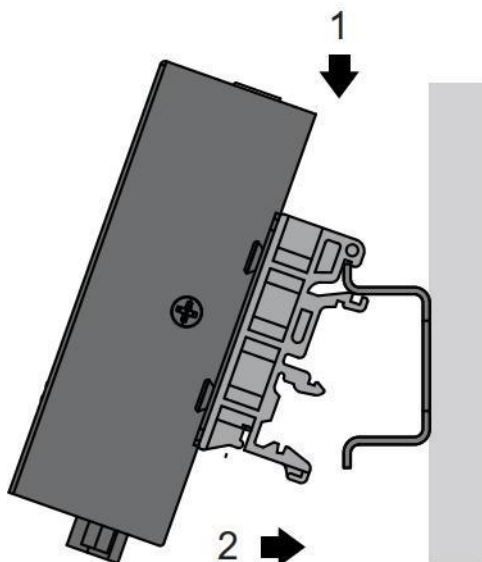

Fig.3 Install DIN-Rail mounting Kit.
- Position the rear panel of the device directly in front of the DIN-Rail, making sure that the top of the DIN-Rail clip hooks over the top of the DIN-Rail, as shown in Fig.3